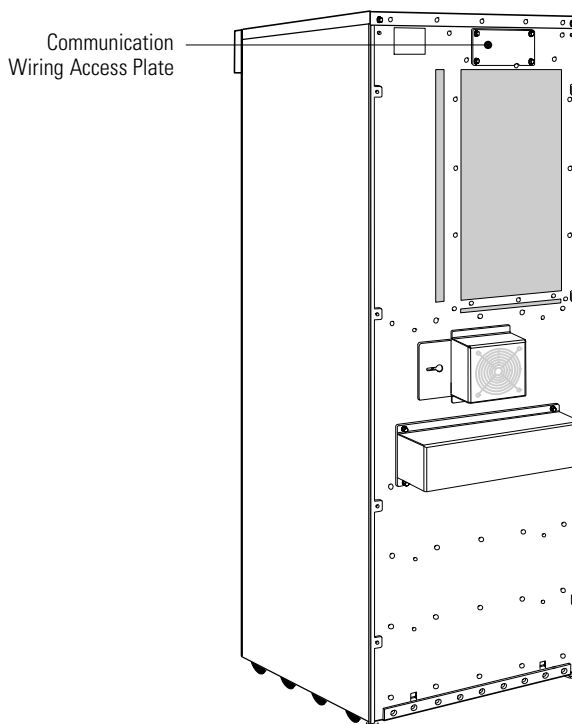

Figure 39. Communication Wiring Access
5. Remove the communication wiring access plate from the UPS rear panel and punch a hole in it using a Greenlee punch or similar device (see Figure 39).